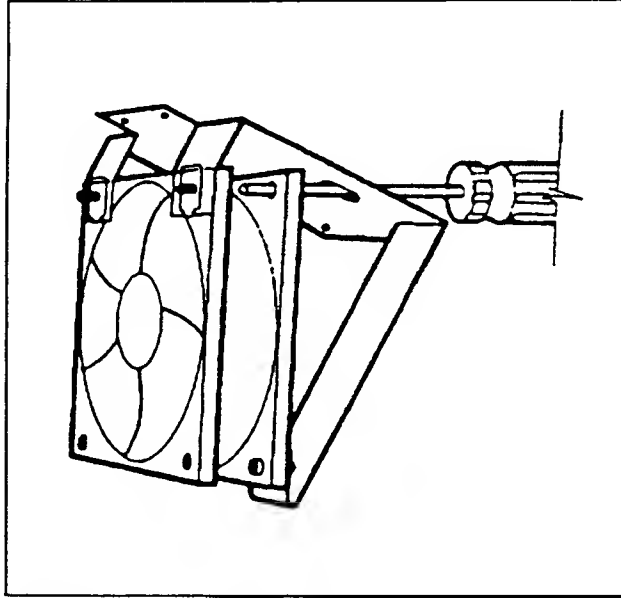

Figure 6-28. Lower Fan Bracket
- e. Remove the fan from the bracket by removing four screws (see Figure 6-28).